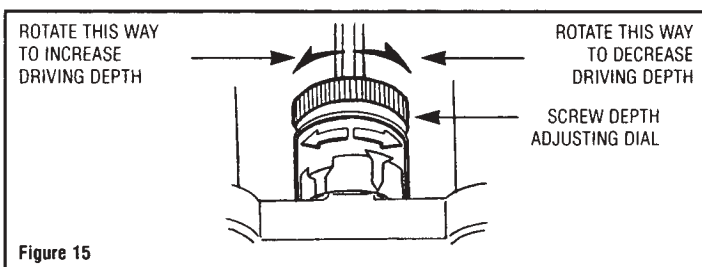

Figure 15
**(j) Countersink Depth Adjustment** - By turning the depth adjusting dial left or right, the depth to which screws may be driven can be adjusted. See figure 15. Rotating the adjusting dial to the right reduces driving depth, rotating to the left increases driving depth.